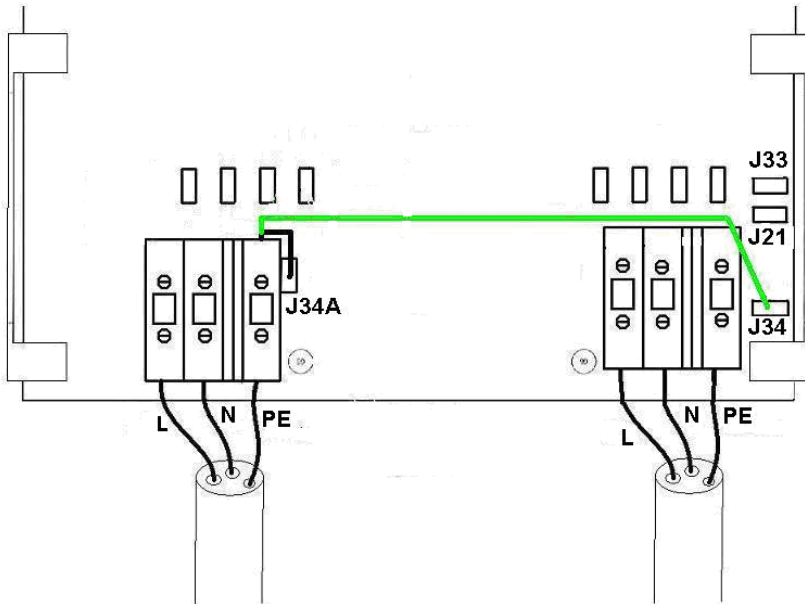

Figure 4: Input earth connection (for the Auto 115/230V model, see fig 4a)
- If the boat is floating, connect the PE wire coming from the input PE terminal to male push-on connector J34A (wire shown in black on fig 4). Now input and output are isolated from each other.
- If the boat is on shore (winter period or maintenance), the PE conductor in the boat must be connected directly to the input PE, for safety reasons. This is achieved by connecting the PE wire coming from the input PE terminal to male push-on connector J34 (wire shown in green or grey in fig 4).